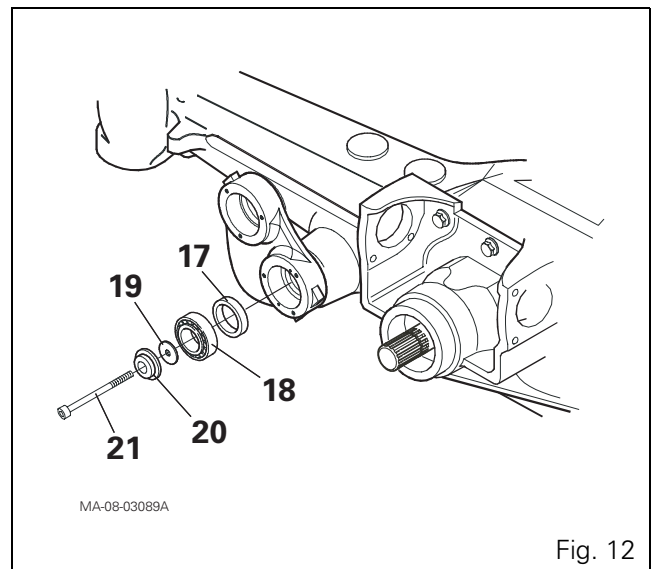

Fig. 12
- 12.** Fit one seal (17) onto each pin fitted in the lower arm housing using tool ref. CA715352 (see § C) and a hammer (Fig. 12).